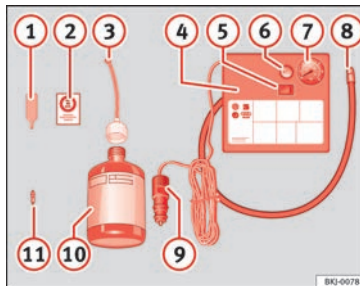

Fig. 73 Standard representation: contents of the anti-puncture kit.
- Unscrew the tyre valve cap and insert. Use the » Fig. 73 ① tool to remove the insert. Place it on a clean surface.
- Shake the tyre sealant bottle vigorously » Fig. 73 ⑩.
- Screw the inflator tube » Fig. 73 ③ into the sealant bottle. The bottle's seal will break automatically.
- Remove the lid from the filling tube » Fig. 73 ③ and screw the open end of the tube into the tyre valve.
- Place the insert back into the tyre valve using the tool » Fig. 73 ①.
- Screw the compressor tyre inflator tube » Fig. 73 ⑧ into the tyre valve.
- Check that the air bleed screw is closed » Fig. 73 ⑥.
- Insert the connector » Fig. 73 ⑨ into the vehicle's 12-volt socket » page 151.
- Turn the air compressor on with the ON/OFF switch » Fig. 73 ⑤.